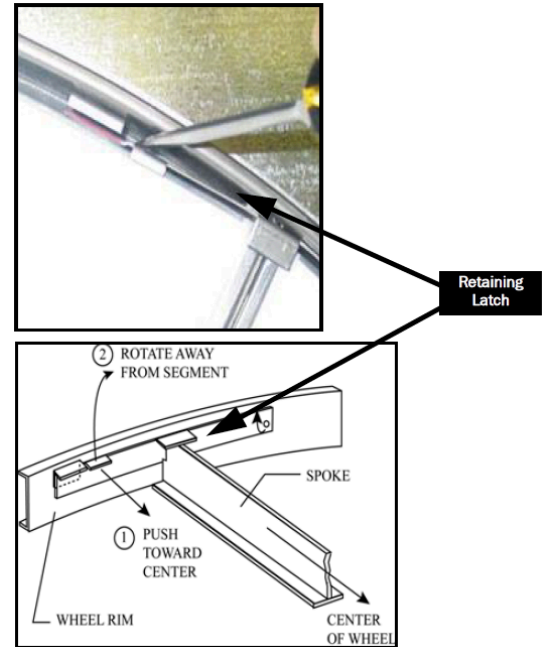

Figure 20 Release retaining latches following steps 1 and 2 in diagram.
- 4) Using a flathead screwdriver, unlock and open the two segment retaining latches, Figure 20, at the outer corners of the segment to be removed.
- 2) Begin by positioning one empty segment bay at the top of the wheel and opening the two retaining latches, Figure 20.
- 4) Close the retaining latches on outer corners of segment to secure the segment inside the wheel, Figure 20.